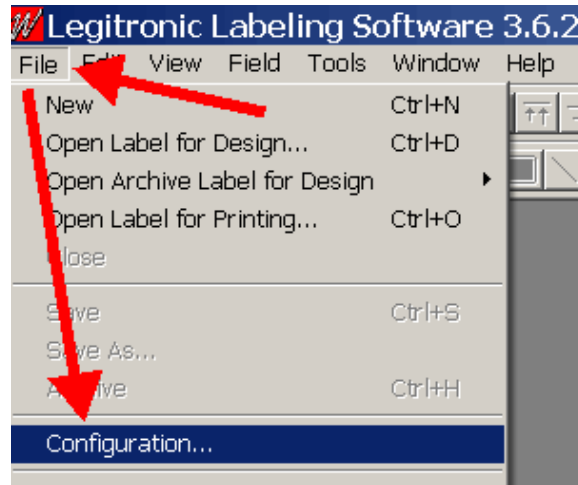

Figure 4-2
4.2.1. Click *File > Configuration*. The *Configuration* dialog box opens. (Figure 4-2)